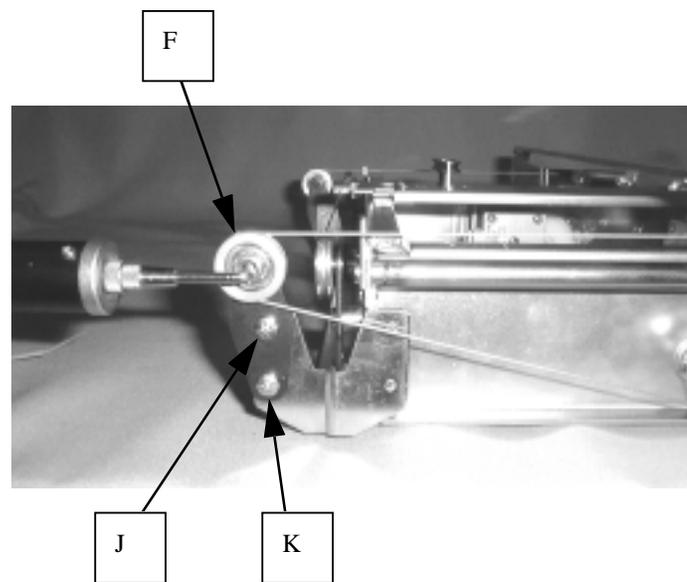
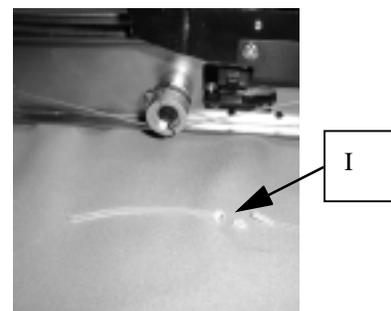

FIGURE 13-5
FIGURE 13-6
5. Remove setscrews (J)(K) shown in Fig.13-5 and remove wire pulley (F).
6. Fix the wire pulley temporarily by setscrews (J)(K) while applying the wire (G) to new wire pulley (F).
7. Cut grip band (I) as shown in Fig.13-6 with due care so as not to scratch the wire. Pull the wire pulley (F) with about 7Kgf by the spring balance in the arrow direction, and tighten screws in the order of setscrew (K) and setscrew (J). Fig13-5.
8. Turn the pulley (H) clockwise and counterclockwise several times by hand, and check the wire tension. Draw the wire pulley again, if the wire tension is not suitable.